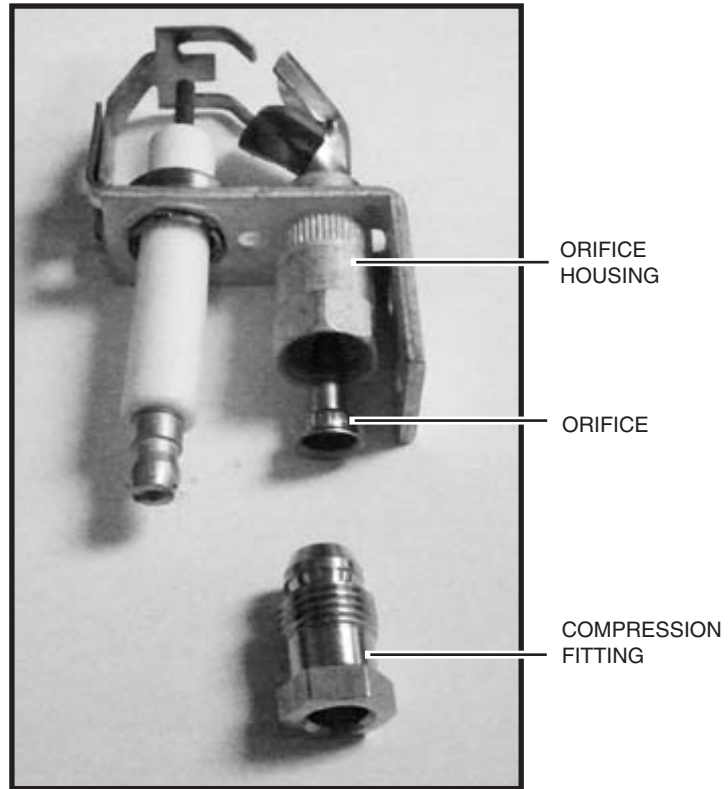
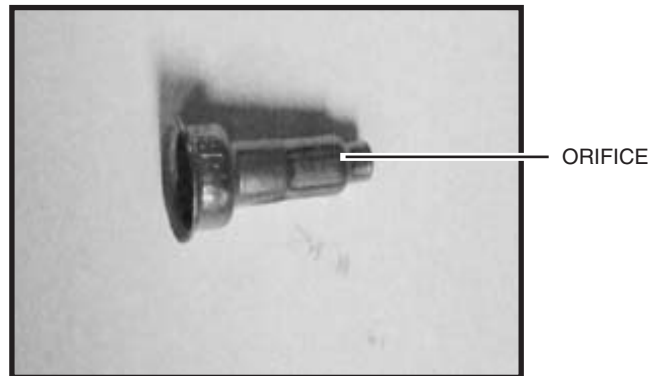

Figure 2: Orifice insert.
Figure 3: ORIFICE.
2. Insert the propane orifice that came in your instruction pack as shown into the orifice housing and reattach the pilot to the compression fitting and pilot tube (Figure 2) & (Figure 3).